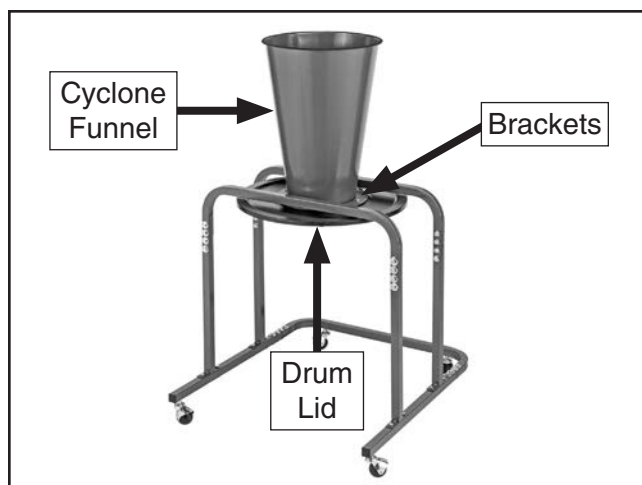

Figure 11. G0863 cyclone funnel and collection drum lid positioned on stand.
12. Align holes in G0863 cyclone funnel with holes in collection drum lid and position *under* funnel brackets (see **Figure 11**)